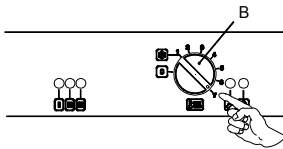

Figure 15.7
- Turn the boiler ON positioning the function selector B in the position shown in figure 15.7 and ensure that the room thermostat is set to “heat demand”.
- Watch the gauge and check to see if the ignition pressure registered corresponds to the values given in the Technical Data. Turn off the boiler and reignite it by turning the function selector B to the 0 position and then back to that indicated in figure 15.7.